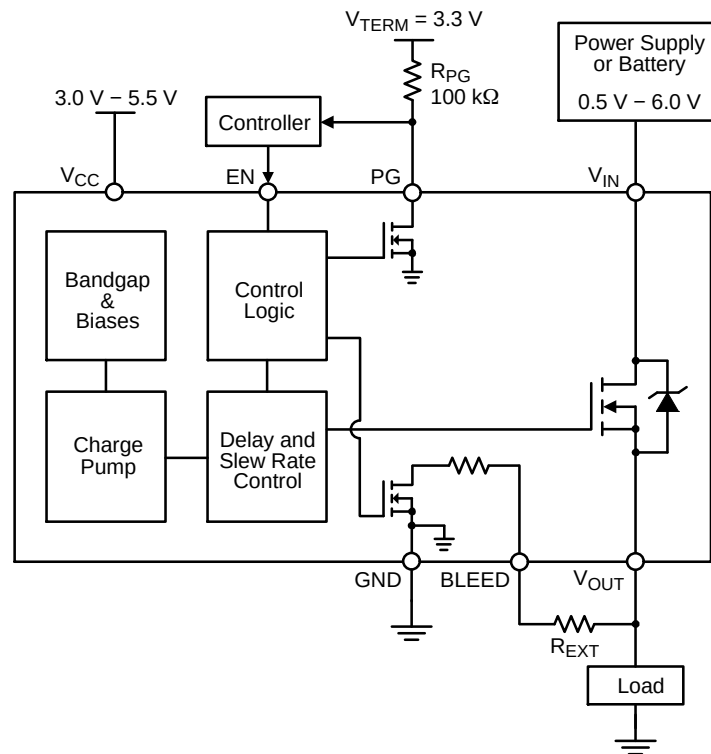
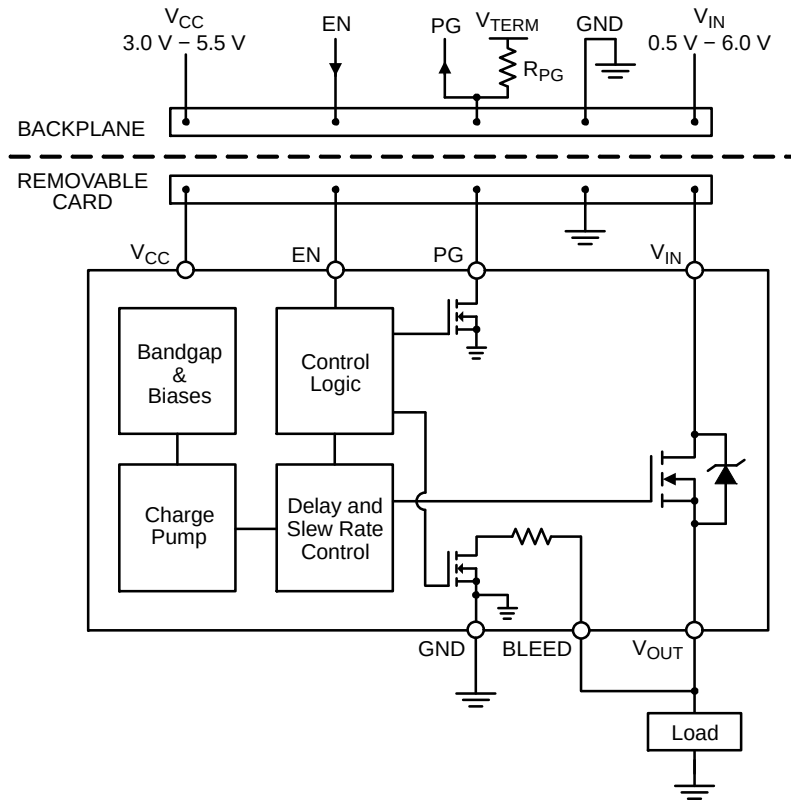

Figure 3. NCP45526 Typical Application Diagram – Load Switch
Figure 4. NCP4526 Typical Application Diagram – Hot Swap
Is it required that the BLEED pin be connected to V_{OUT} either directly (as shown in Figure 4) or through an external resistor, R_{EXT} (as shown in Figure 3). R_{EXT} should not exceed $100\text{ M}\Omega$ and can be used to increase the total bleed resistance and decrease the load bleed rate.
The NCP45526 devices have a power good output (PG) that can be used to indicate when the gate of the MOSFET is fully charged. The PG pin is an active-high, open-drain output that requires an external pull up resistor, R_{PG} , greater than or equal to $1\text{ k}\Omega$ to an external voltage source, V_{TERM} , that is compatible with input levels of all devices connected to this pin (as shown in Figures 3 and 4).